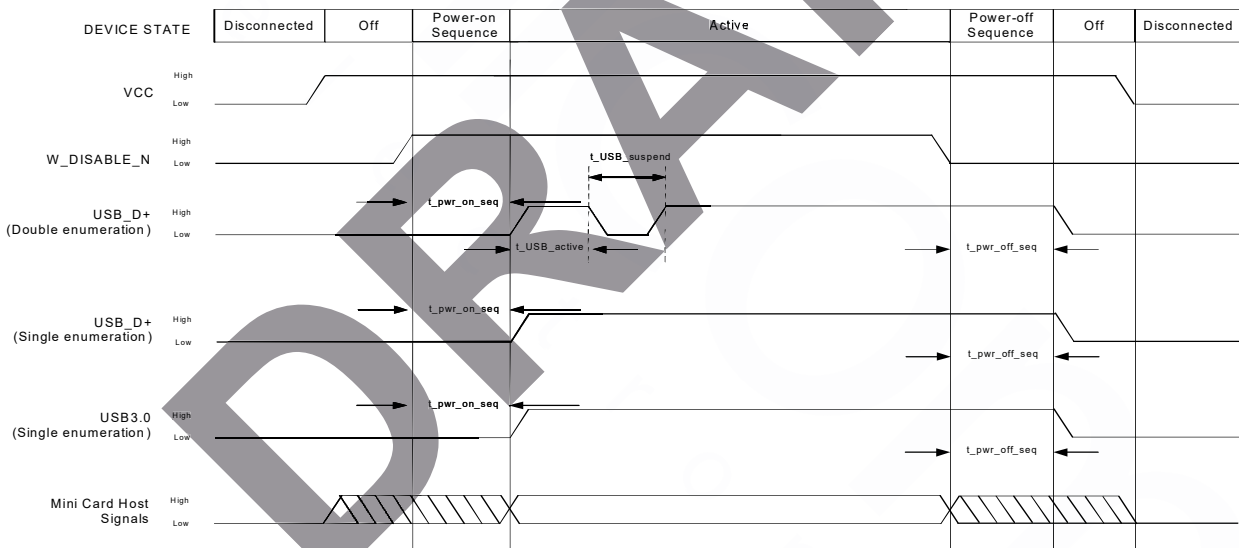

Figure 4-2: Signal Timing (*W_DISABLE_N*, and USB Enumeration)
Figure 4-2 describes the timing sequence for powering the module on and off.
- Double enumeration—As shown in Figure 4-2 on page 42: